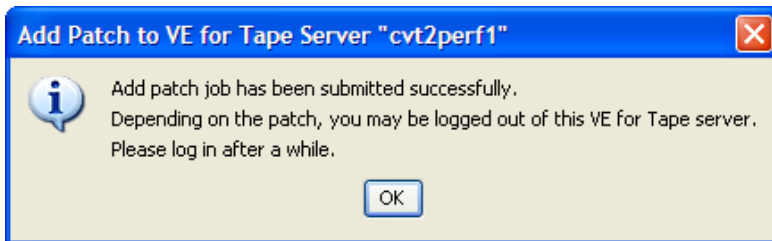

Figure-10
7. If the “Add Patch to VE for tape Server” window appears, click OK. Figure-10